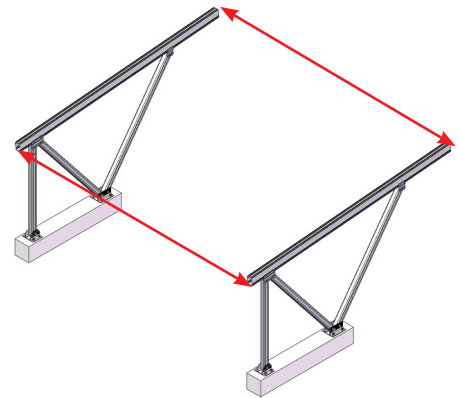

Figure 9
5.1.5 After placing an array support. Measure whether all the end faces and top surfaces are on the same plane and whether the installation angle meets the requirements, as shown in Figure 9.